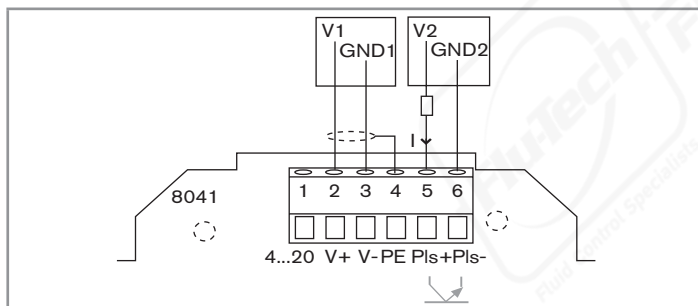

Fig. 22: Connection of the frequency output to an electromechanical counter with its own power supply
- or to a load such as an electronic counter with its own power supply (see Fig. 22).